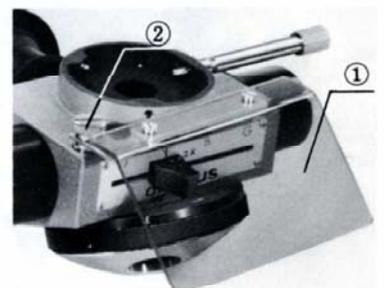

Fig. 4
1) Clamp the UV protective shade ① to the upper edge ② of the vertical illuminator. (Fig. 4)